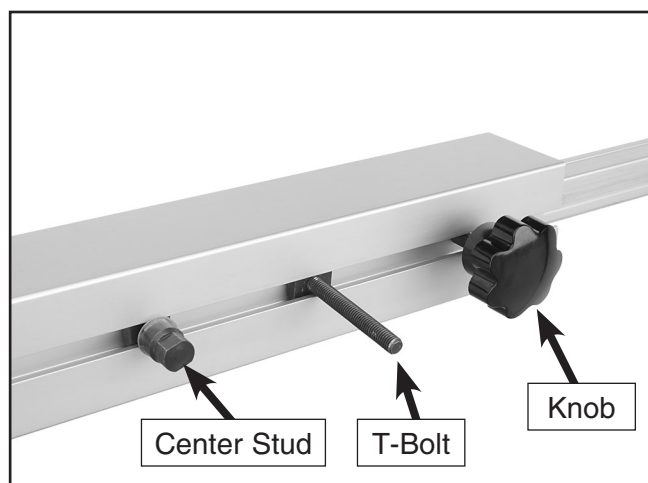

Figure 36. Crosscut fence assembly.
2. Slide the center stud, an M8-1.25 x 60 T-bolt, and screw a M8-1.25 x 25 knob into the crosscut fence as shown in **Figure 36**.